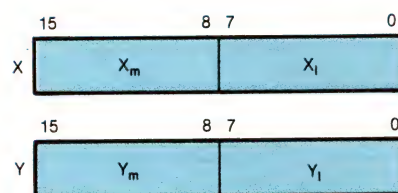

Fig 1—Two 16-bit operands (X and Y) are treated as two pairs of bytes for processing by an 8×8-bit multiplier.
The multiplication algorithm handles two signed 16-bit operands, both represented in two's-complement form. Because an 8×8-bit multiplier performs the operations, the algorithm treats each of the 16-bit numbers as two bytes—the most significant byte is signed; the least significant, unsigned. One operand (X) comprises the two bytes X_m (most significant) and X_l (least significant); the other operand (Y) similarly comprises Y_m and Y_l (Fig 1).